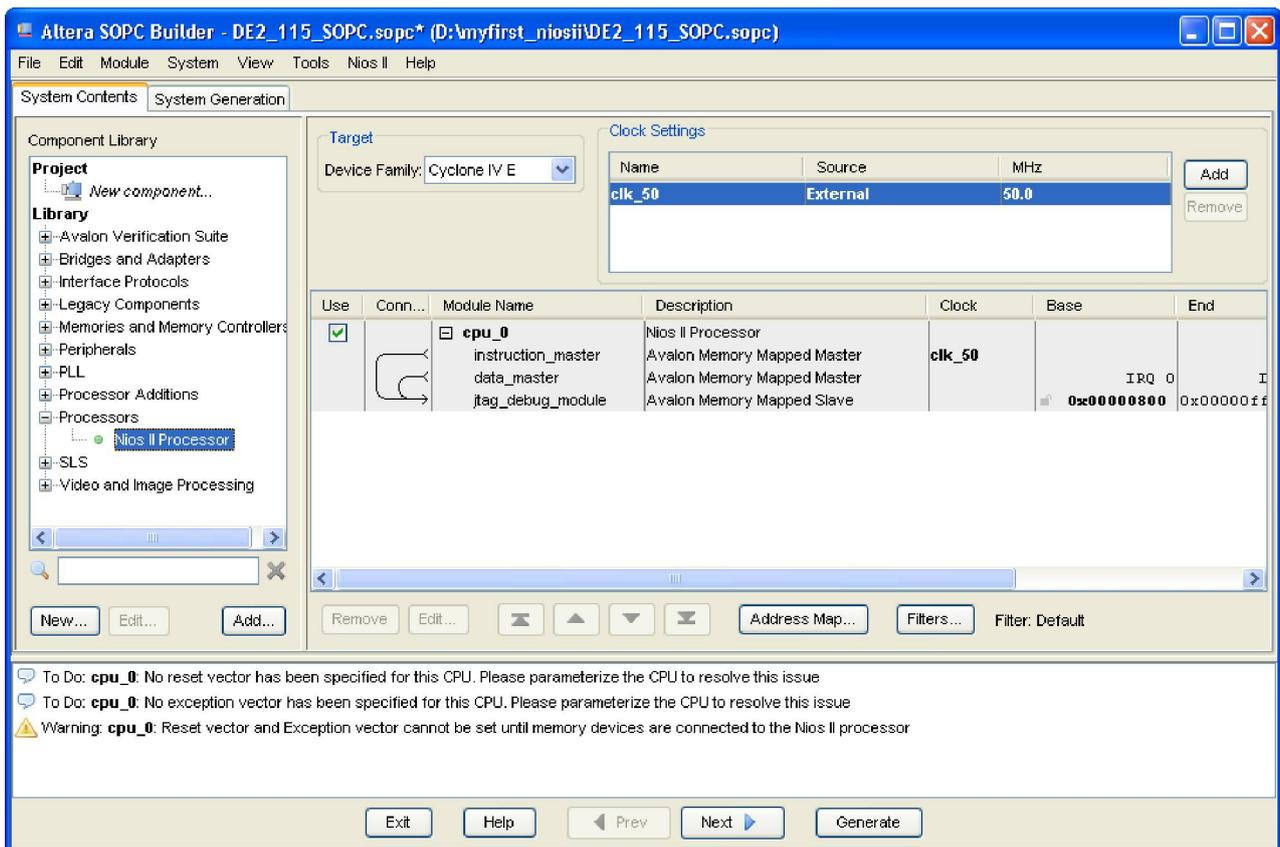

Figure 1-16 Add Nios II CPU completely
9. Click **Finish** to return to main window as shown in Figure 1-16.